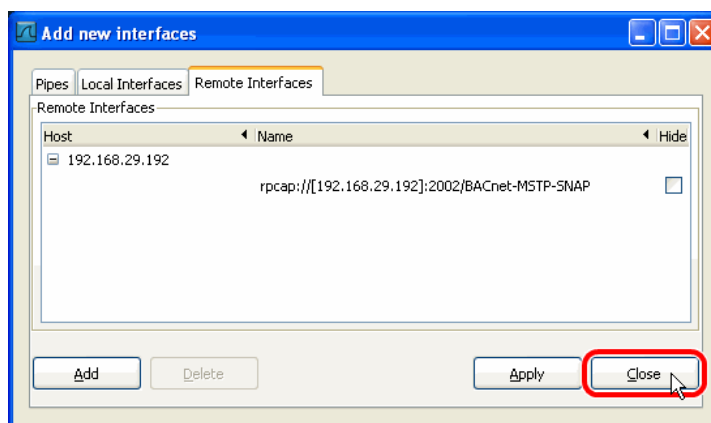

Figure 306: Added new interface to Wireshark.
7. If the connection to the device was established successfully, the **Remote Interfaces** list will be updated with information about all capture ports available on the device as shown in Figure 306.